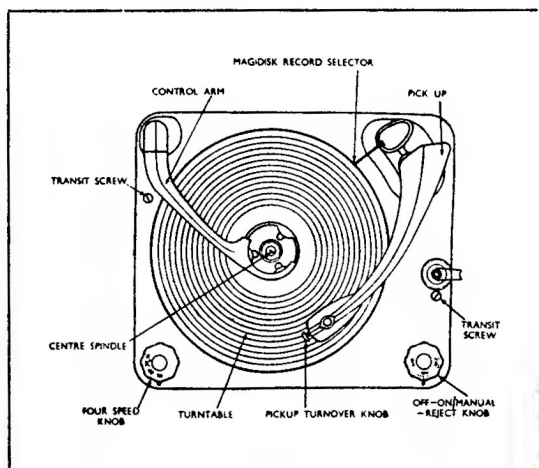

FIGURE 7.
No oil should be used on the Magidisk Record Selector Bearing (see Figure 7).
- (2) To Remove Control Arm Assembly (Item 8M2A) (See Figure 7)